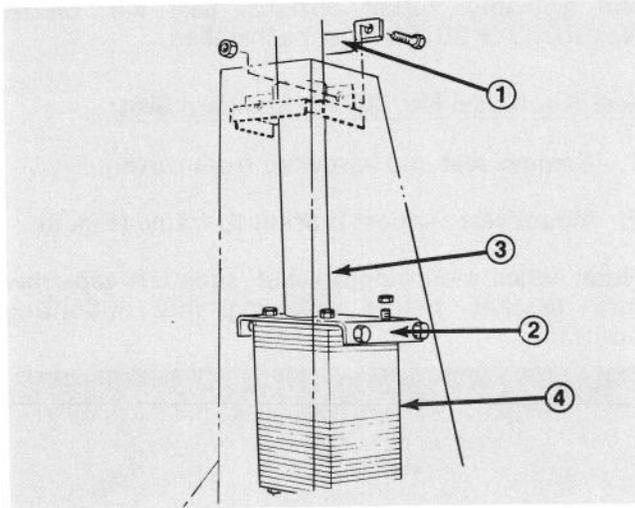

Figure 1
steering post to tower (Fig. 1).
2. Slide steering post upward until valve mounting studs are positioned into mounting bracket (Fig. 1).
3. Secure valve to bracket with (4) locknuts (5/16 -24).